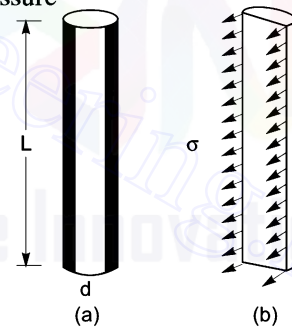

Fig. 1.12 Forces on liquid jet.
**1.6.3 Surface Tension on a Liquid Jet.** Consider a liquid jet of diameter 'd' and length 'L' as shown in Fig. 1.12.